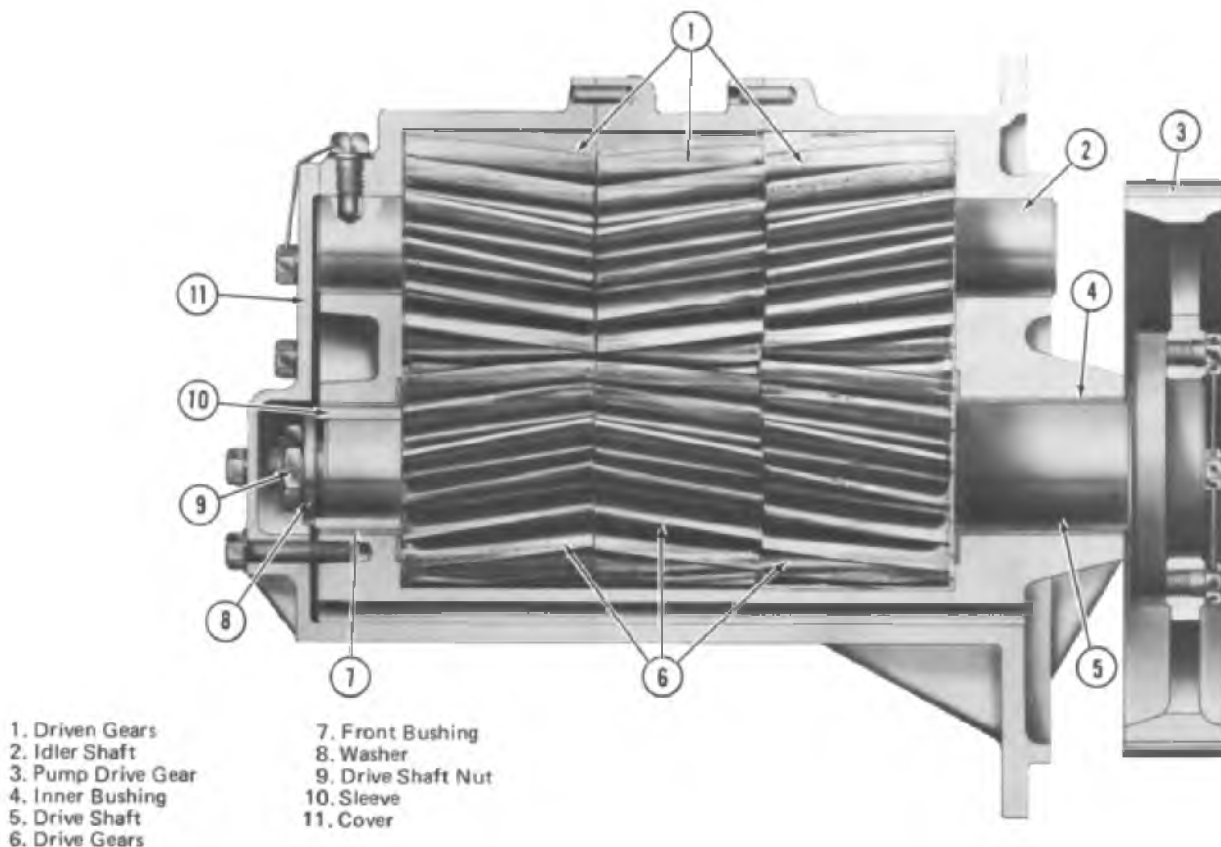

Fig. 9-17 - Scavenging Oil Pump, Cross-Section (16 & 20-Cyl.)
1. Place the cleaned and inspected rear body, Fig. 9-17, in the vise with the drive shaft bore facing up.